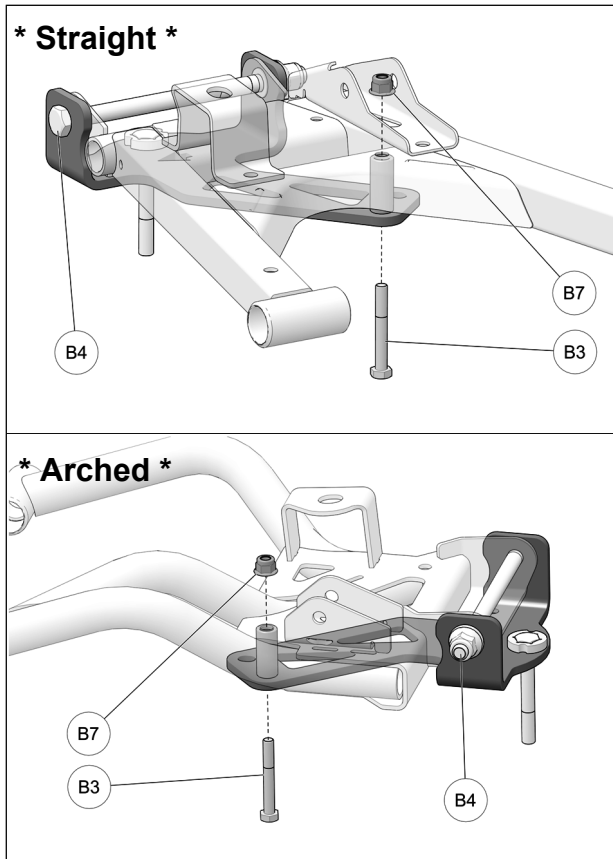

Fig. 10
9. Secure back of anchor bracket to suspension arm with M8x60 mm bolt (B3), inserted from the bottom. and nut (B7). Torque M12 bolt (B4) to 85 N•m [63 lb•ft]. and M8 bolt to 25 N•m [18 lb•ft]. See Fig. 10